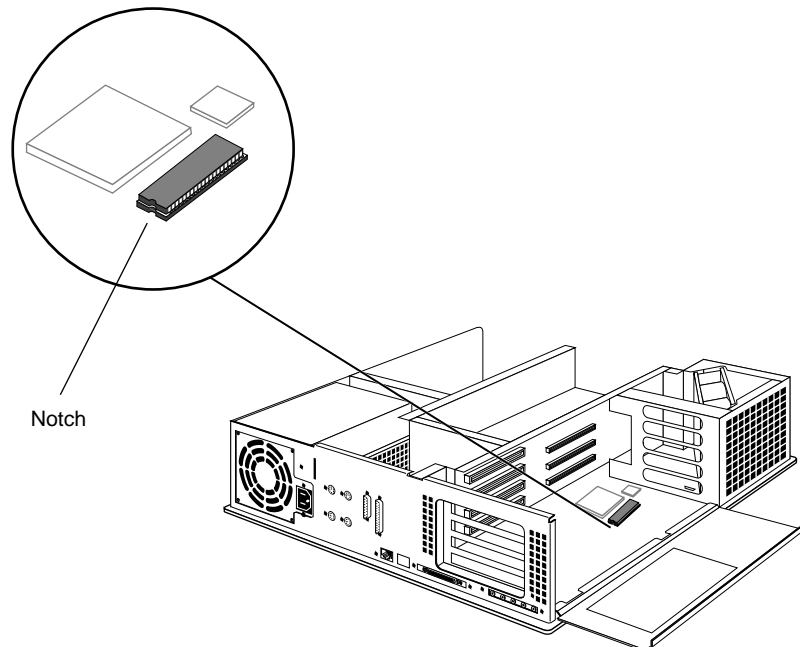

Figure 2-11 Locating the PROM Chip on the CPU Board
2. Locate the PROM chip. The PROM chip is located on the CPU board below the slot from which you removed the graphics board, as shown in Figure 2-11.
Note that the PROM chip has a semi-circular notch on one end, as shown in Figure 2-11. You'll use this notch to orient the PROM.